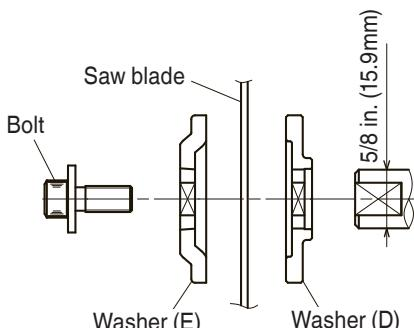

Fig. 28-c
- (6) Press in the spindle lock and tighten the bolt by turning it to the left by standard accessories' wrench (5mm Hex. bar wrench) as indicated in Fig. 28-b.